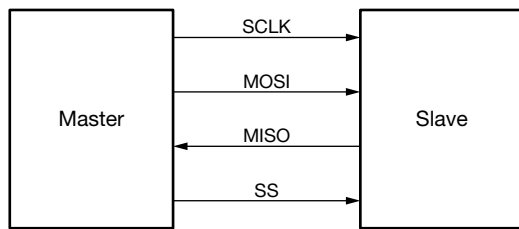

Fig. 1 - 1 Master - 1 Slave SPI Connection
The serial peripheral interface (SPI) bus as shown in Fig. 1 is a synchronous serial, four-wire, multi-user bus with a clock frequency up to a few MHz. The application areas are inter-chip communication in audio and measurement, LCD displays, SD cards, etc. The SPI bus consists of four lines: a serial clock line (SCLK), master output slave input (MOSI), master input slave output (MISO), and optional slave select (SS).
One channel is required for the serial clock line (SCLK), one for the forward data transmission (MOSI), one for the backward data transmission (MISO), and one channel for the slave select line (SS) as shown in Fig. 1.